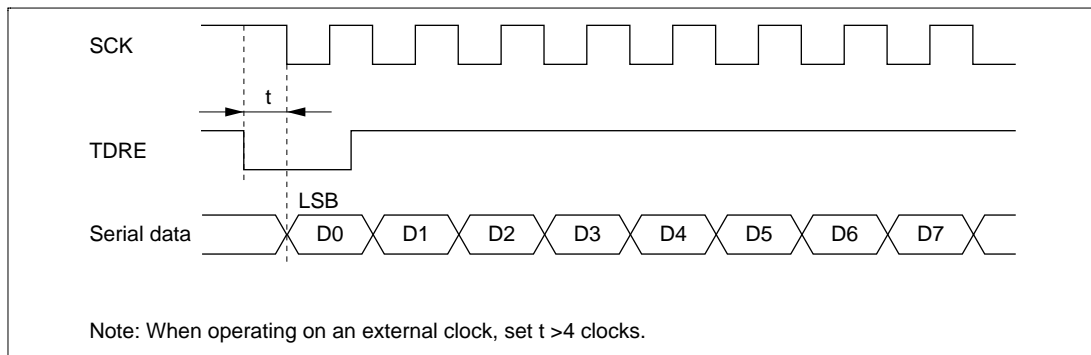

Figure 12-22 Example of Clocked Synchronous Transmission by DTC
- When an external clock source is used as the serial clock, the transmit clock should not be input until at least 5 ϕ clock cycles after TDR is updated by the CPU and DTC. Misoperation may occur if the transmit clock is input within 4 ϕ clocks after TDR is updated. (Figure 12-22)